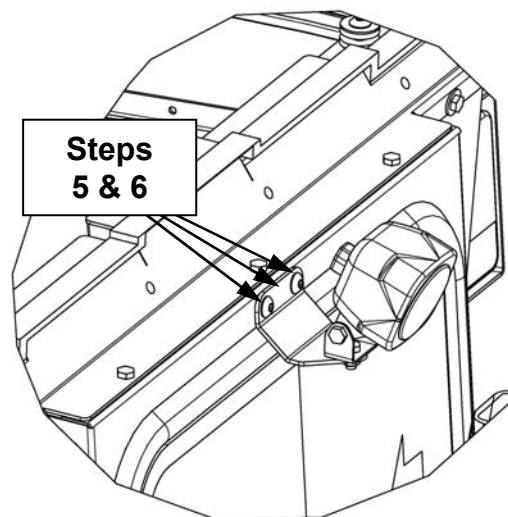

Figure 3
4. If warning beacon kit is installed on cab, remove beacon and bracket from rear cross member **(Figure 3).**
5. Remove (2) 3/8" hole plugs from middle of rear cross member.
6. Secure rear light and mount bracket to rear cross member (Install or re-install warning beacon if required, using **(Figure 3 & 4)**;